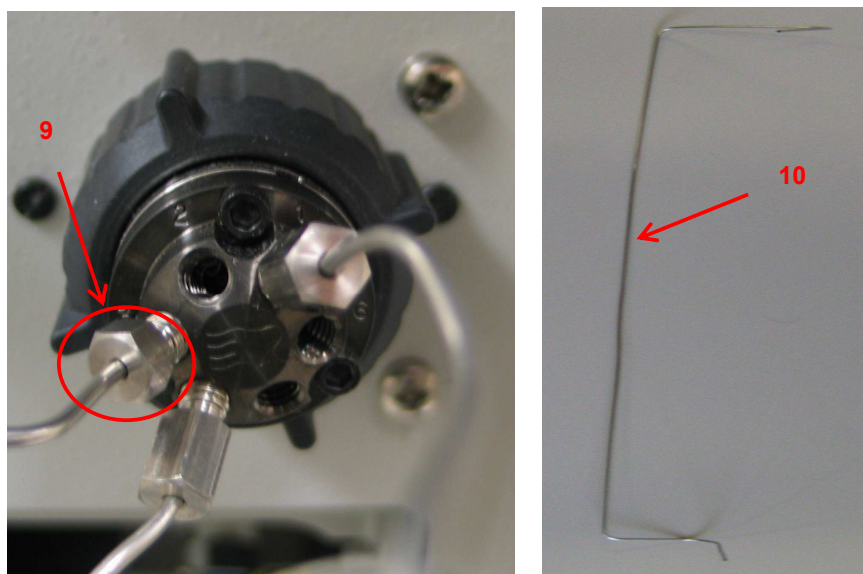

Figure 13: Tube connected to position 3
15. *Figure 13* shows the preparative manual injector valve. In Position 3 (9) of the injector valve add the piece of tubing that connects the 6 port autosampler valve to the preparative manual injector valve (*Item 9*) using the nuts and ferrules supplied (*Item 4*, *Item 5*). The piece of tubing (10) used to make the connection is shown in *Figure 13* along with the preparative manual injector.